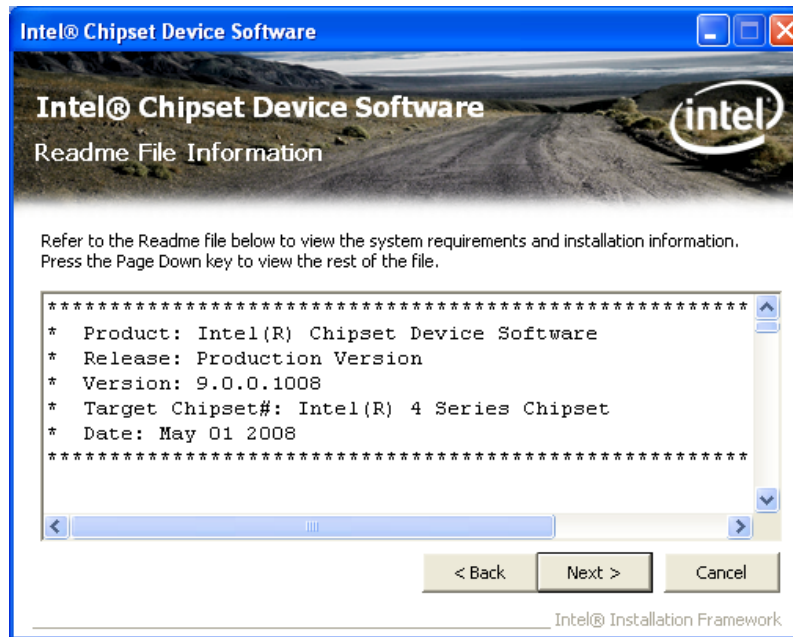

Figure 6-6: Chipset Driver Read Me File
- Step 10: The **Read Me** file in **Figure 6-6** appears.